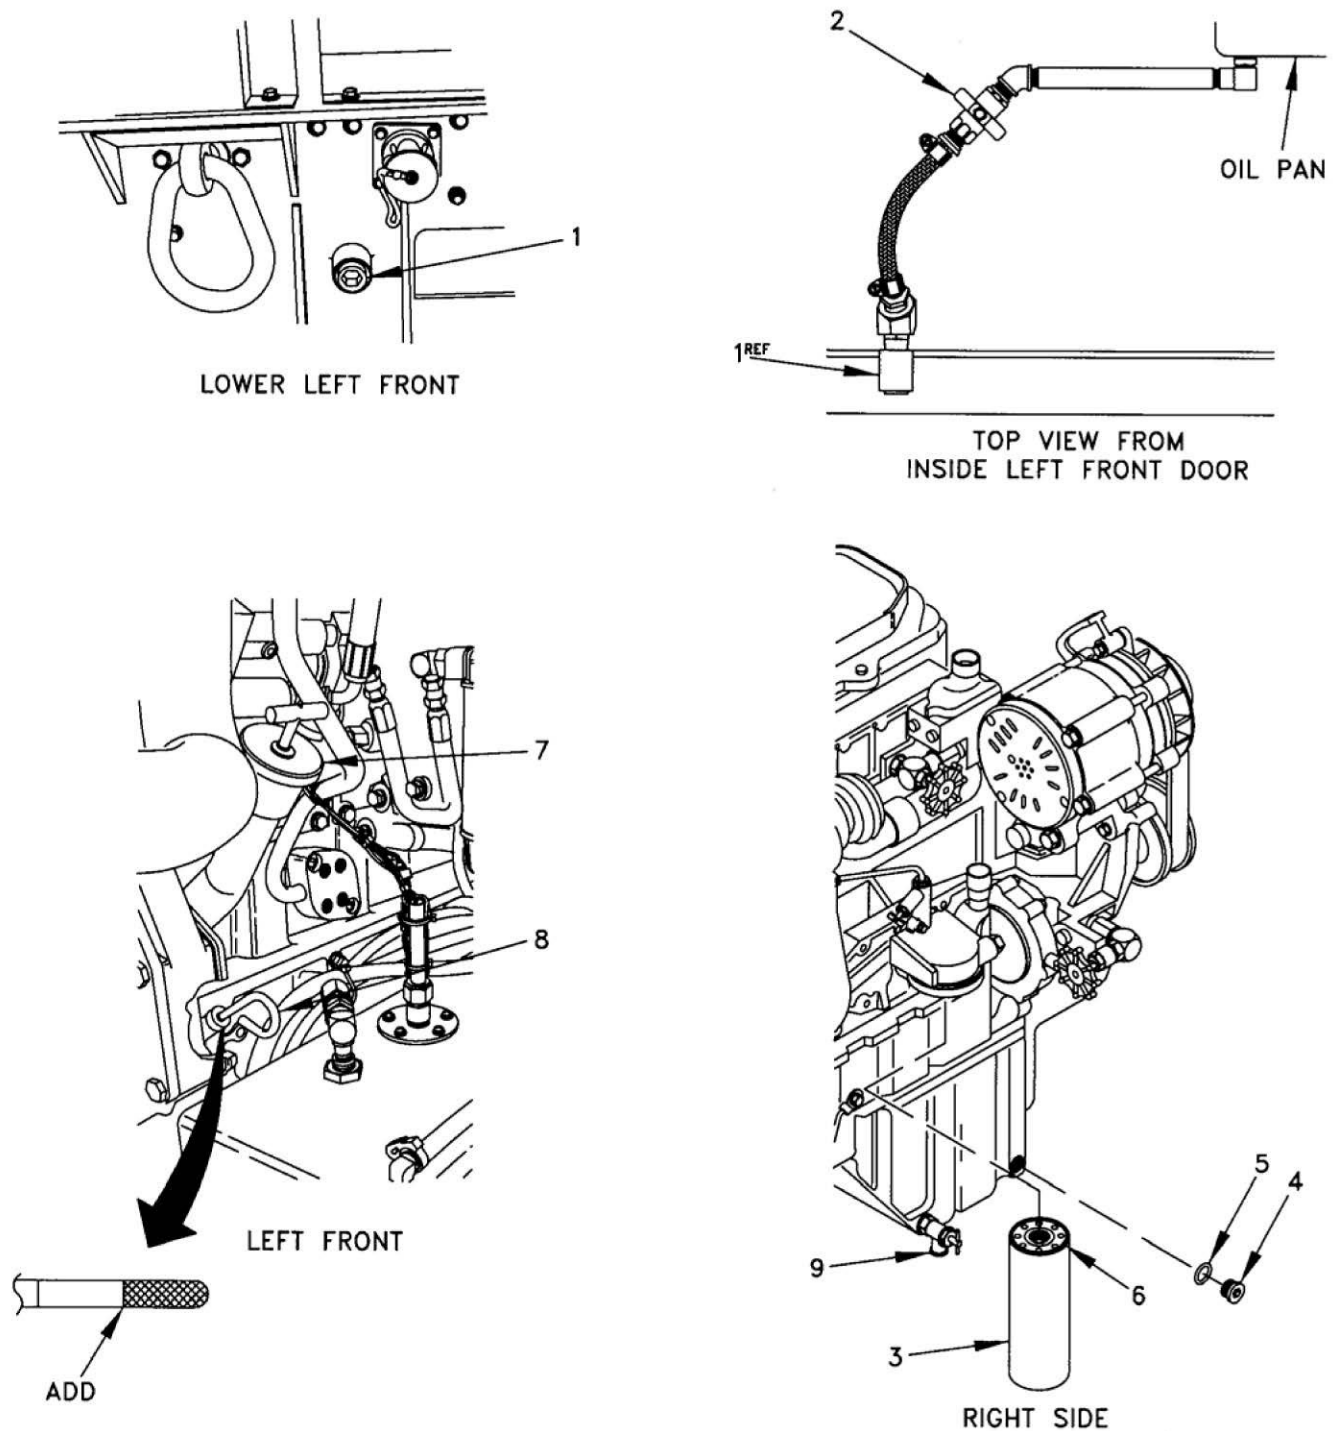

Figure 1. Oil Filter Maintenance and Oil Change.
5. Remove plug (Figure 1, Item 1) from oil drain.
6. Open oil drain valve (Figure 1, Item 2) at lower left side of oil pan and allow oil to drain from system.
7. Remove oil filter (Figure 1, Item 3) using strap wrench if necessary.
8. Remove magnetic plug (Figure 1, Item 4) and preformed packing (Figure 1, Item 5) from lower right side of oil pan, opposite drain valve (Figure 1, Item 2). Inspect magnetic plug for metal particles. If metal particles are present, notify supervisor. Wipe off plug.
2. Install preformed packing (Figure 1, Item 5) and magnetic plug (Figure 1, Item 4).
3. Apply thin coat of lubricating oil to rubber seal (Figure 1, Item 6) on oil filter (Figure 1, Item 3).
4. Install oil filter (Figure 1, Item 3) by hand until seal (Figure 1, Item 6) contacts base, then tighten by hand $\frac{3}{4}$ turn more.
5. Close oil drain valve (Figure 1, Item 2).
6. Remove oil filler cap (Figure 1, Item 7) on left front of engine. Refill system with oil (see WP 0015, Table 3. Engine Oil). Install oil filler cap (Figure 1, Item 7).
7. Check dipstick (Figure 1, Item 8) for correct oil level.
12. Check dipstick (Figure 1, Item 8) for correct oil level.
4. Open oil drain valve (Figure 1, Item 9) on right side of engine below oil filter, collect oil sample, and close drain valve.